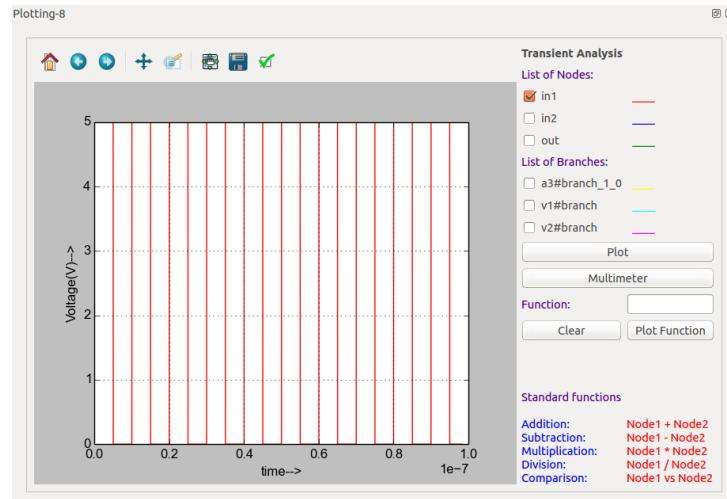
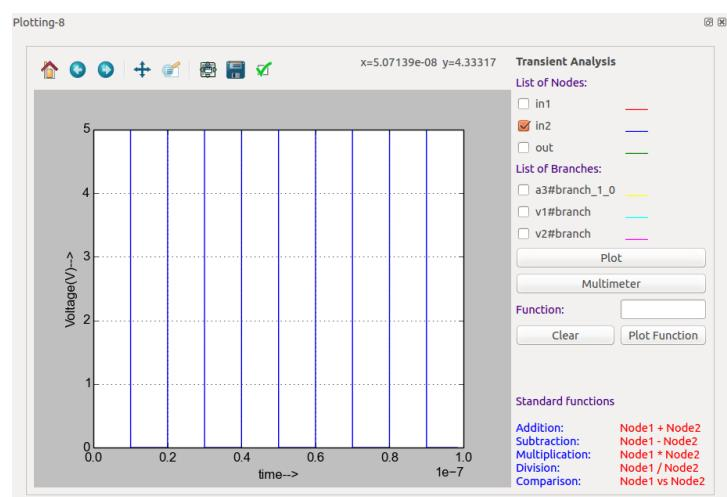
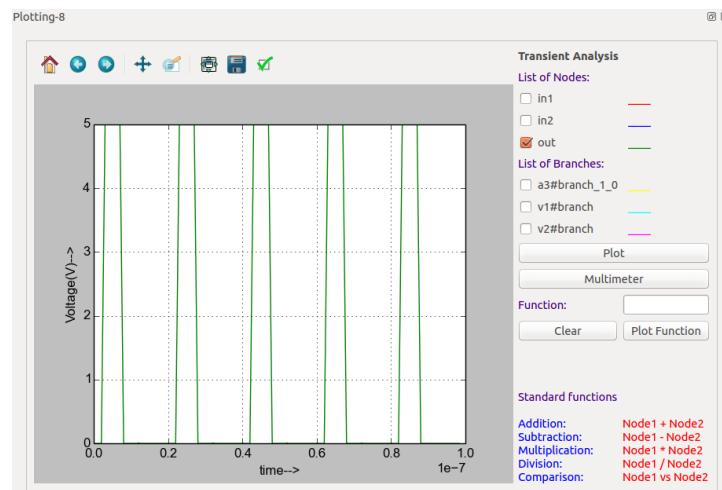

Figure 9.17: Plot of Source V1
Figure 9.18: Plot of source V2
Figure 9.19: Plot of output
9. Now select the required nodes and click on Plot button. You can see the plots of input source v1, input source v2 and output as shown in Fig. 9.17, Fig. 9.18, and Fig. 9.19 respectively.